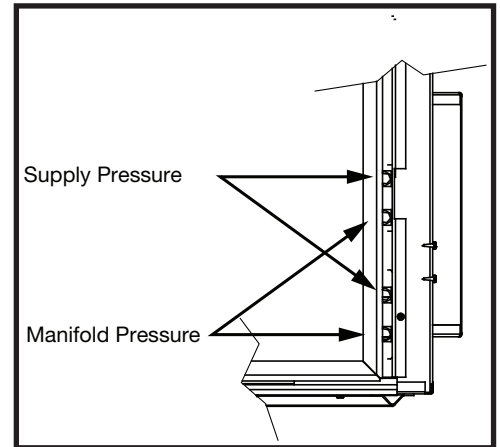

Figure 44: Test ports.
1. Remove the plug from the pressure test port. The plug is located between the right side lintel and firebox side (Figure 44 and Figure 45).